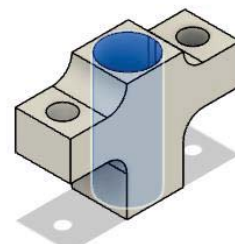

Figure 0-12
- 1 hole on the top of the pilot guide. Refer to Figure 0-12